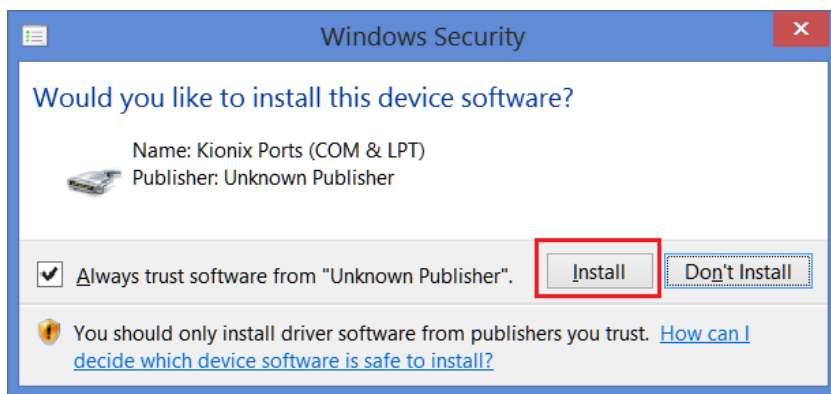

Figure 95. Update Driver Software – 7
9. Windows will prompt you to install the driver, please select "Install" (Figure 95).